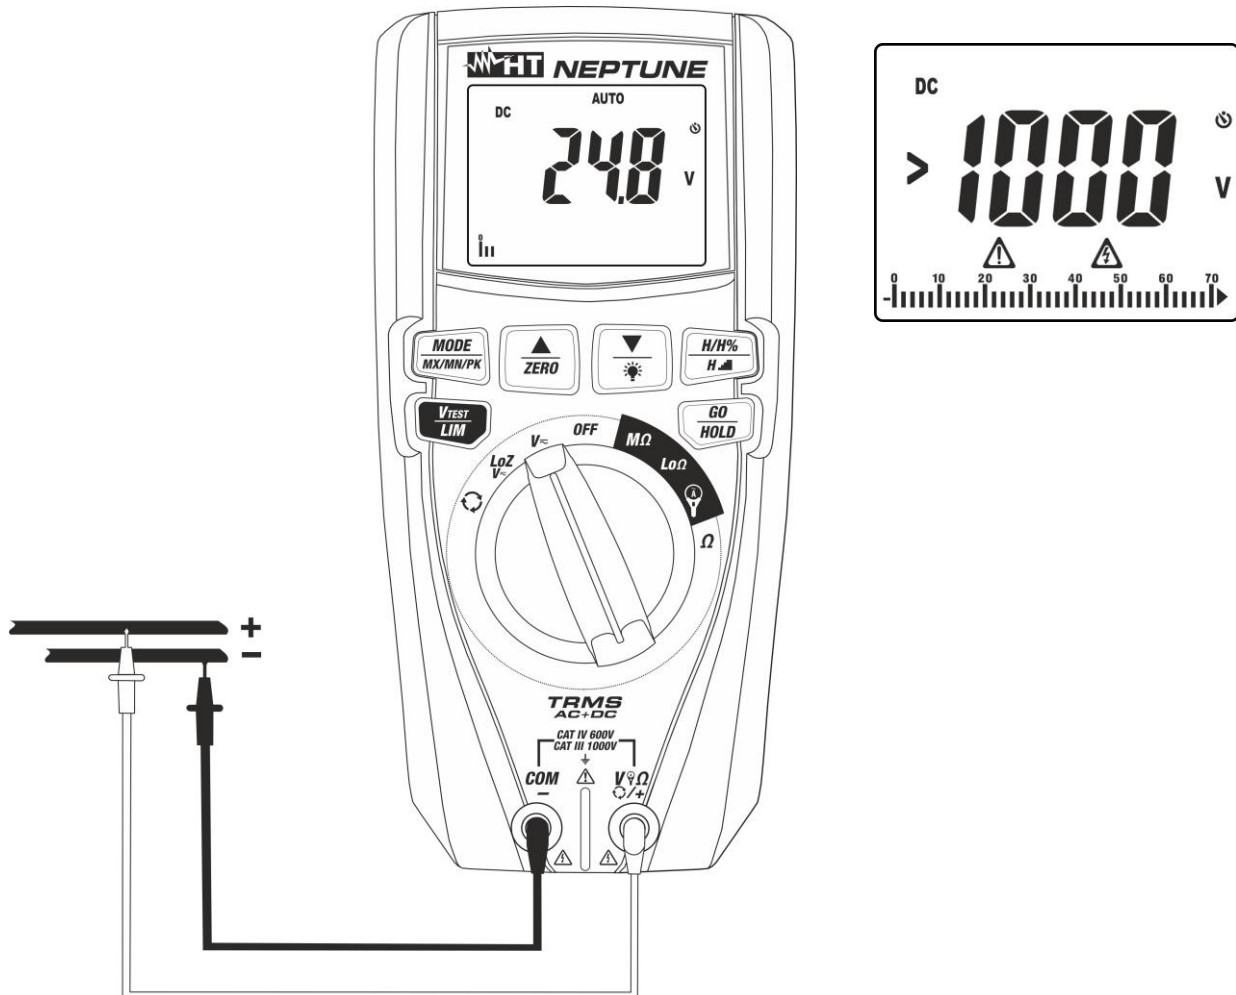
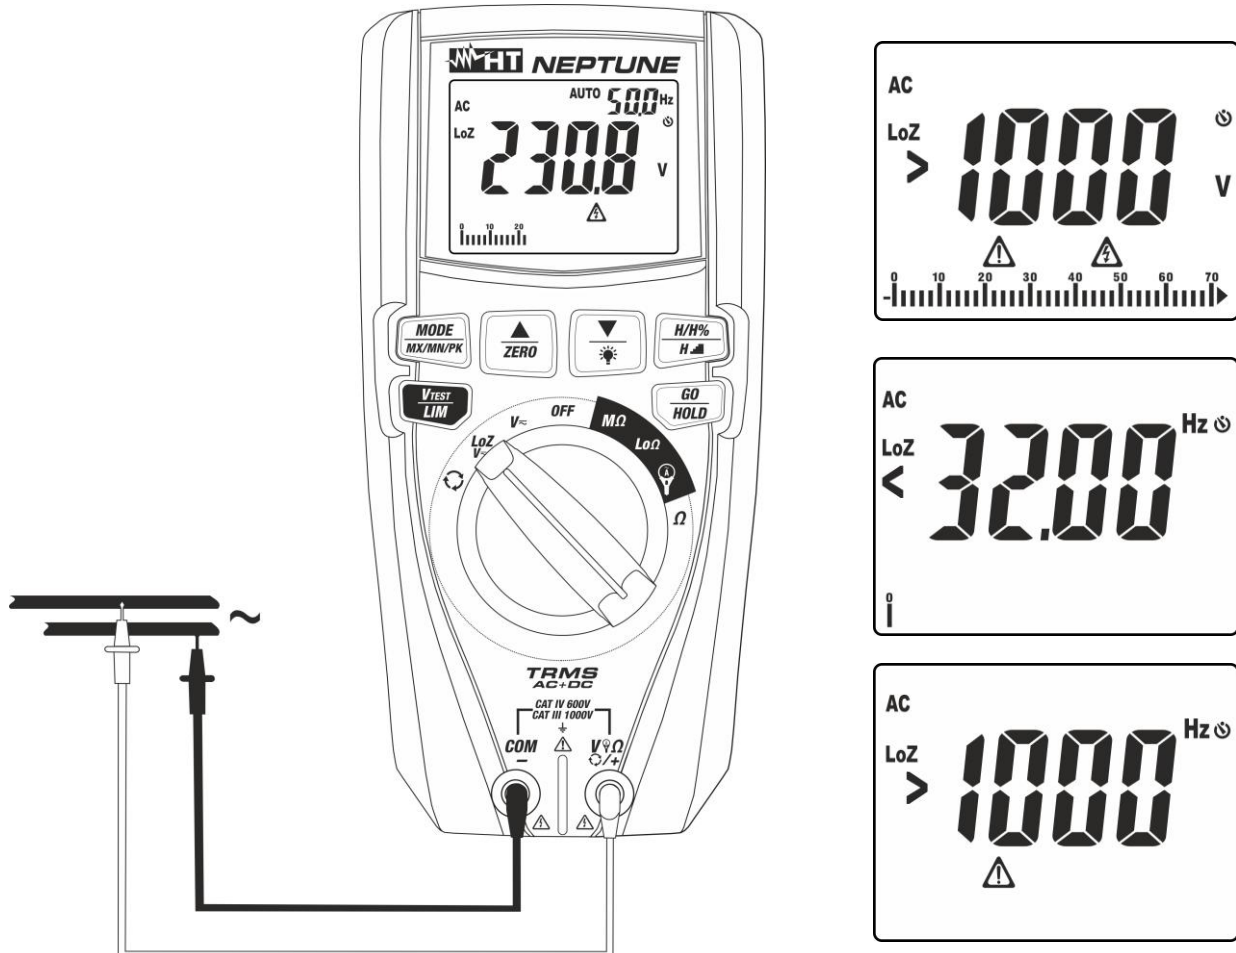

Fig. 6: Use of the instrument for DC voltage measurement
Fig. 8: Use of the instrument for AC/DC voltage measurement with LoZ function
3. Position the red lead and the black lead respectively in the spots with positive and negative potential of the circuit to be measured (see Fig. 6). The display shows the value of voltage.
4. If the display shows the message “>1000V” (see Fig. 6), the maximum measurable value has been reached.
5. When symbol “-” appears on the instrument’s display, it means that voltage has the opposite direction with respect to the connection in Fig. 6.
4. Position the red lead and the black lead respectively in the positions of the circuit to be tested (see Fig. 8) for AC voltage measurement or in the positions with a positive or negative potential of the circuit to be tested (see Fig. 6) for DC voltage measurement. The display shows the value of voltage. On the top of the display on the right side, the value of voltage frequency is displayed. Press key **MODE/MXMNPK** to display the value of frequency with a higher resolution.
5. If the display shows the messages “<32Hz” or “>1000Hz” (see Fig. 8), the value of frequency is out of the measuring range **32Hz ÷ 1000Hz**.
6. When symbol “-” appears on the instrument's display, it means that voltage has the opposite direction with respect to the connection in Fig. 6